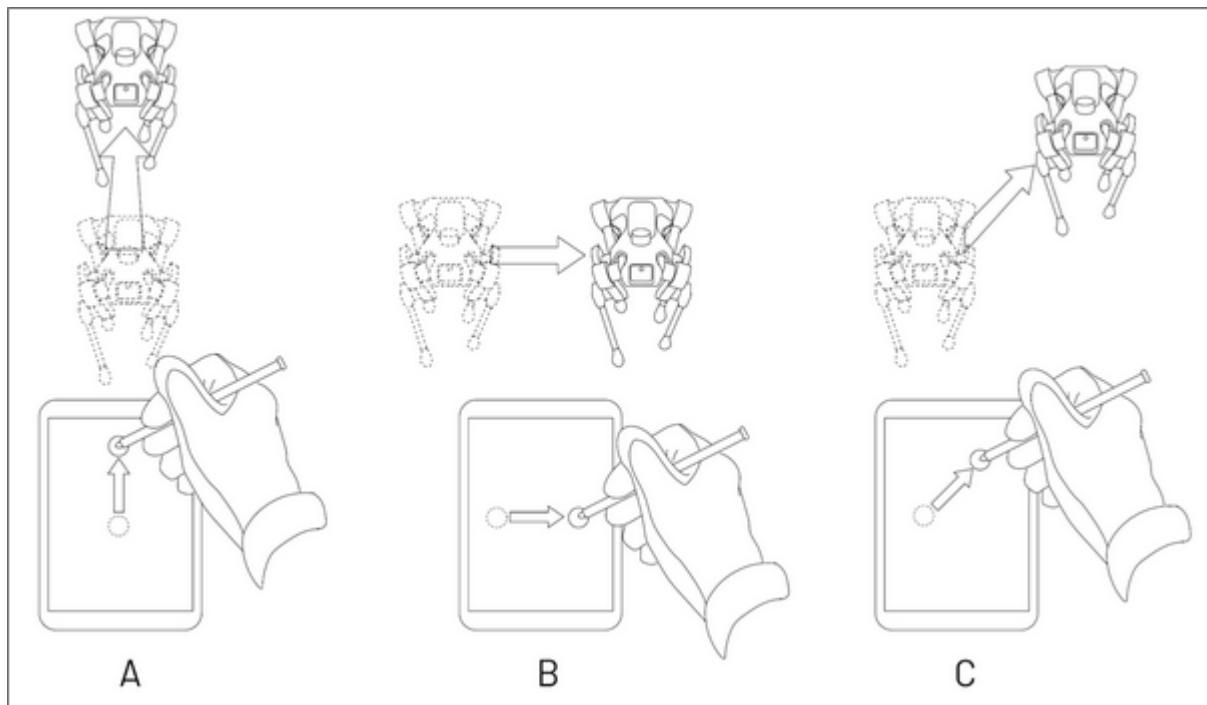

Figure 60 - Steering the Robot in the stair climbing mode
- Forward: slide upward (A in Figure 60).
- Strafe: slide sideways (B in Figure 60).
- Forward and to the side: slide diagonally (C in Figure 60).